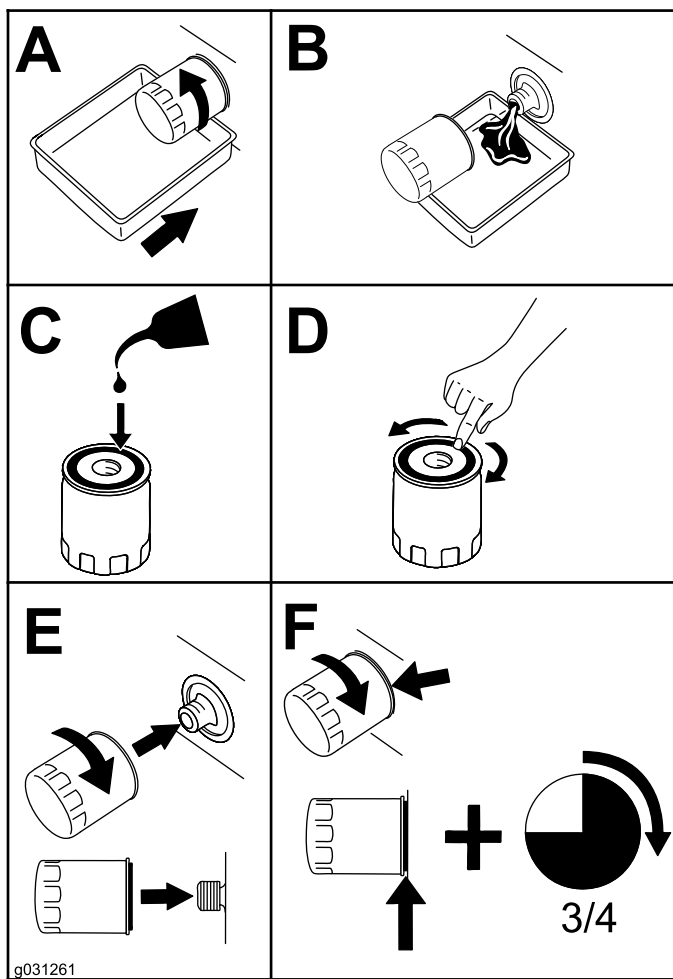

Figure 51
10. Change the oil filter (Figure 51).